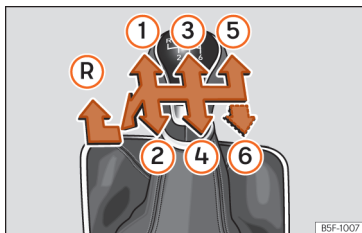

Fig. 133 Gear shift pattern of a 5 or 6-speed manual gearbox.
The position of the gears is indicated on the gearbox lever »» Fig. 133.
- With the gearbox lever in neutral, push it downwards, move it to the left as far as it will go and then forwards to select reverse »» Fig. 133 (R).